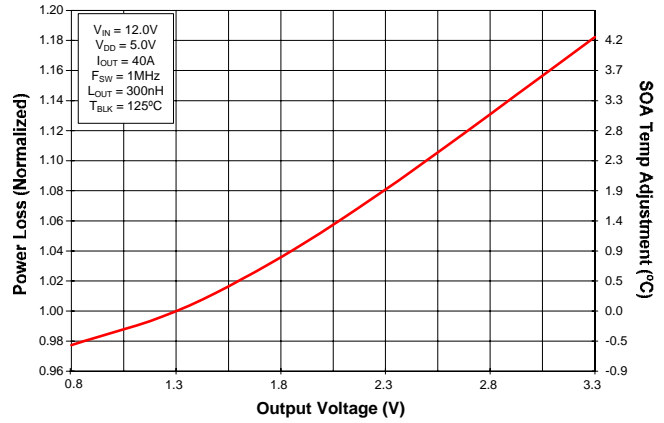

Figure 4 Normalized Power Loss vs. Output Voltage
| (Figure 4) | Normalized power loss for output voltage \approx 1.0 |
- (Figure 4) SOA temperature adjustment for output voltage $\approx 0.0^{\circ}\text{C}$